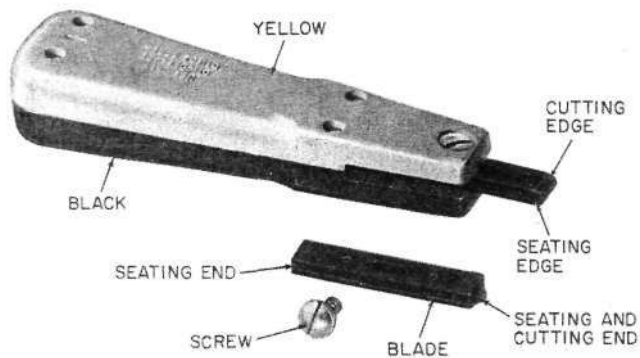

Fig. 1—B Impact Tool
2.01 The tool (Fig. 1) consists of a reversible steel blade attached by a single screw to a plastic handle. One end of the blade is used for seating and cutting conductors while the other end is used for seating only.